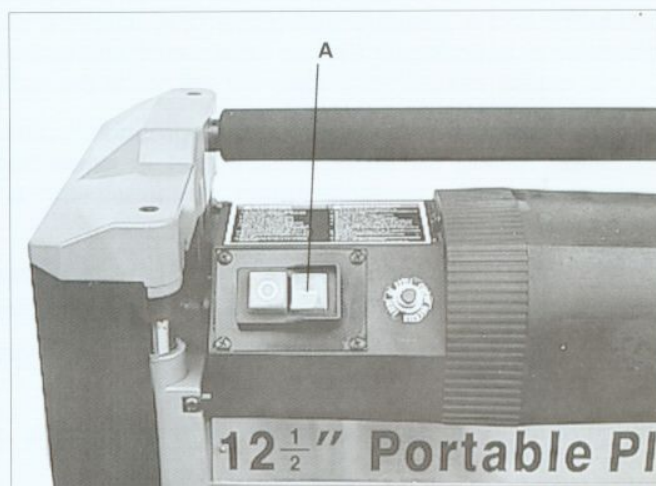

Fig. 14
The on/off switch (A) Fig. 14, is located on the front of the planer motor. To turn the machine "ON", move the switch (A) to the up position. To turn the machine "OFF", move the switch (A) to the down position.